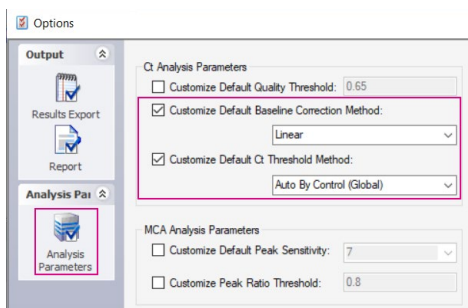

Figure 16. Analysis Parameters options
- 2** Click **Results Export** in the **Output** section (Figure 16 on page 29).